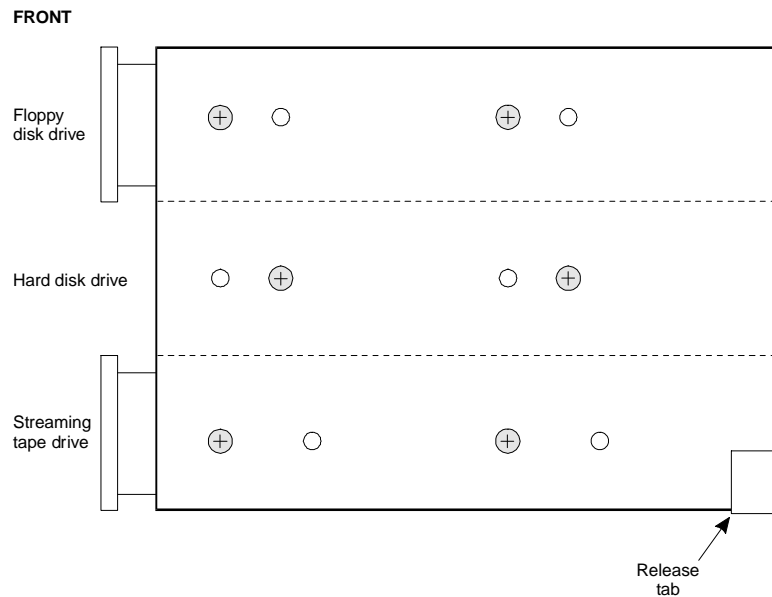

Figure C-15. Release Tab Location on the Peripheral Bay (Drive Housing)
3. Refer to Figure C-15. Remove the two screws on each side of the drive housing that secure the floppy diskette drive tray. Set aside for use again.